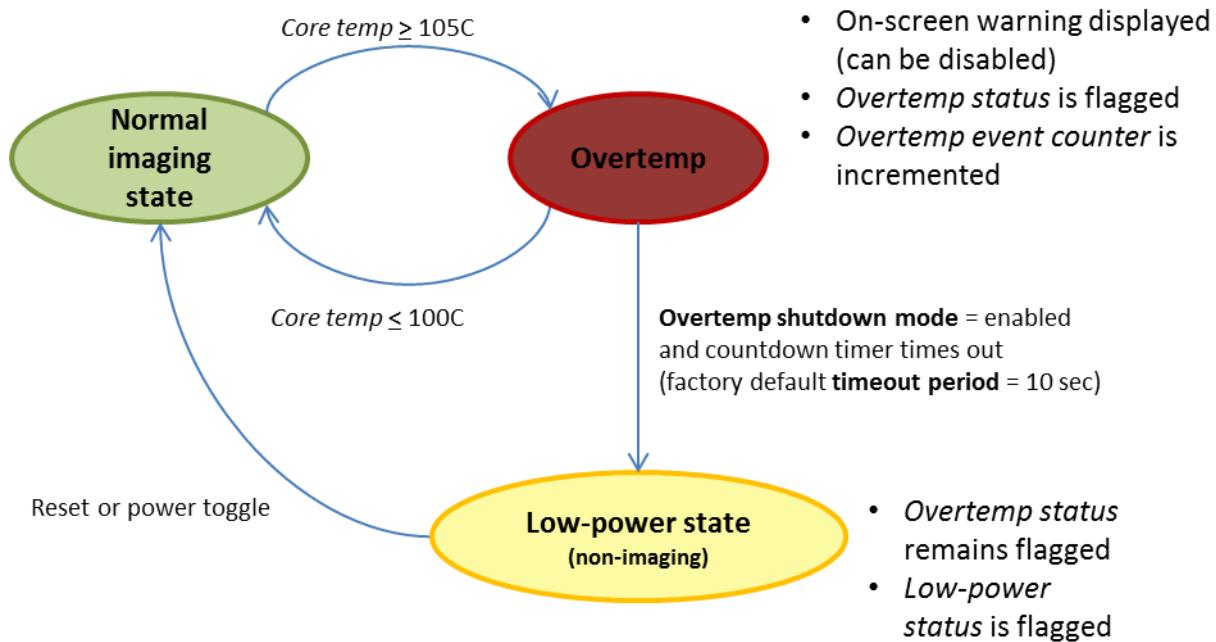

Figure 39: Boson Overtemp and Low-power States
- **Enabled (factory default):** The camera automatically transitions to a low-power state when internal core temperature exceeds the maximum safe value. The camera is capable of responding to commands in the low-power state, but the image pipeline is deliberately disabled to reduce power dissipation and thereby reduce core temperature. As illustrated in Figure 39, the transition between the normal imaging state and the low-power state is via a temporary “overtemp” state, as described below.